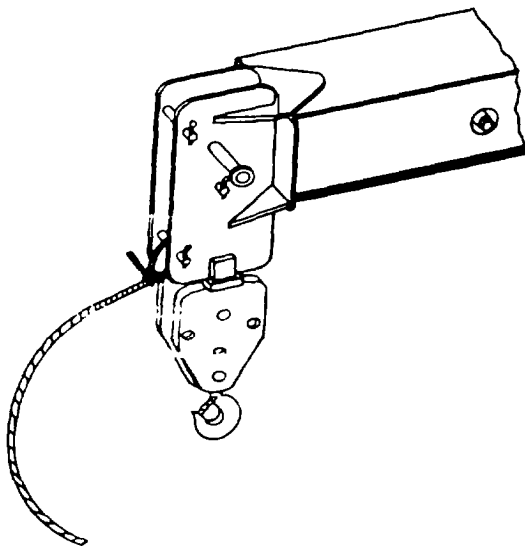

Figure 5-24 Attached Tether Rope
6. Remove tether rope from tool box and knot rope to boom head quick reeving pin (Figure 5-24).